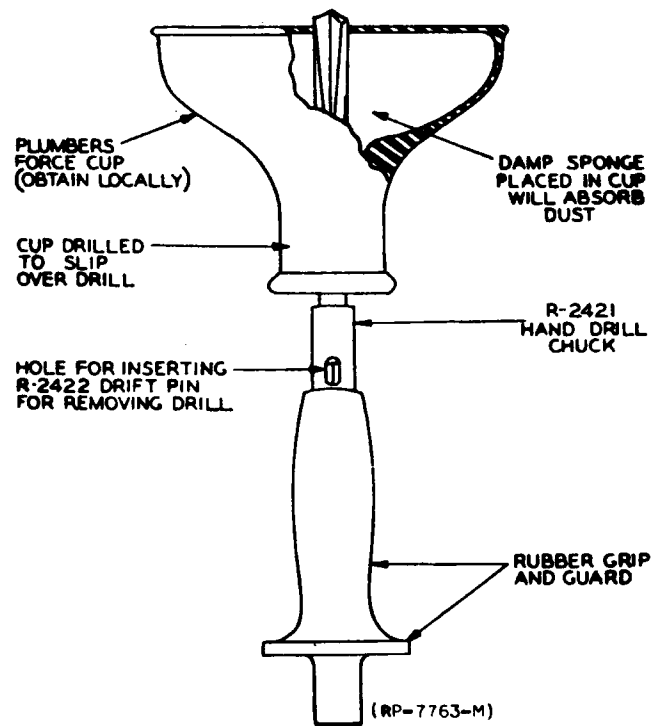

FIG. 1 METHOD OF CATCHING CHIPS WHEN DRILLING CEILINGS (PARS. 4.17, 4.171)
4.17 When drilling ceilings, a plumber's force cup used as shown in Figure 1 will prevent chips and dust from falling on adjacent equipment.
4.171 Although Figure 1 shows a plumber's force cup being used with a star drill, the cup can be used also with wood bits, or the larger sizes of twist drills in hand operated tools.